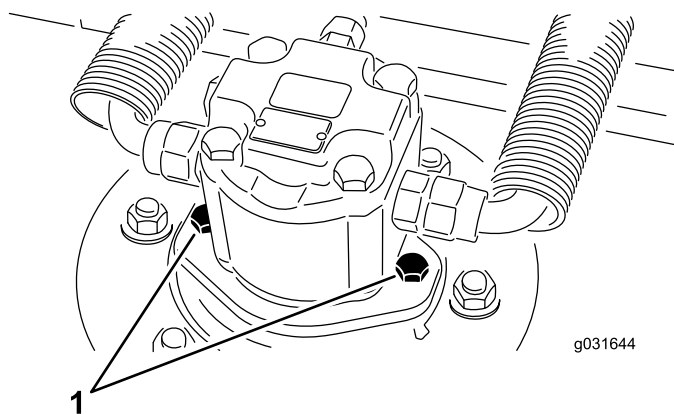

Figure 67
2. Remove the hydraulic-motor-mounting screws and disconnect and remove the hydraulic motor from the deck (Figure 67).
4. Using the hydraulic-motor-mounting screws, install the hydraulic motor to the deck (Figure 67).